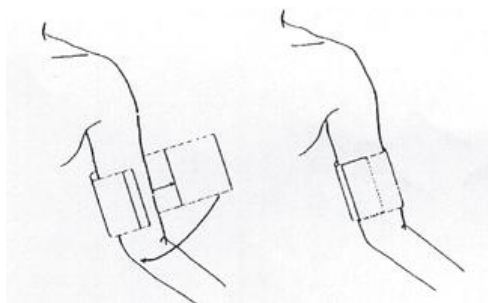

Figure 10-1 Using the cuff
- (1) Insert the inflation tube into the blood pressure cuff interface of the monitor and turn on the product power.
- (2) Follow the method below to tie a blood pressure cuff on the patient's upper arm or thigh, as shown in Figure 10-1.